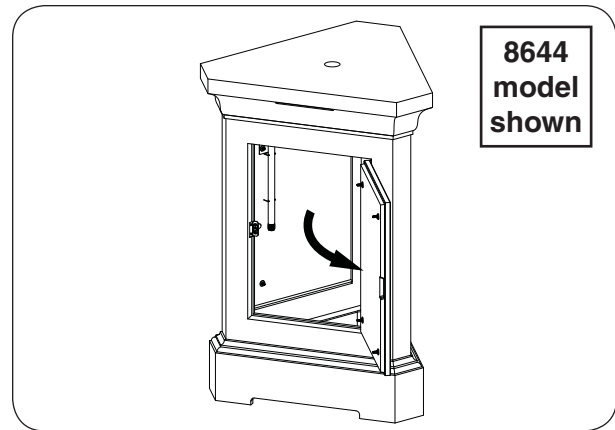

Fig. 26-1 Place pedestal and open door
**CAREFULLY** place the pedestal in an appropriate location (see Fig. 26-1, and refer back to the LOCATION section if needed).
1. Open the storage door (see Fig. 26-1).